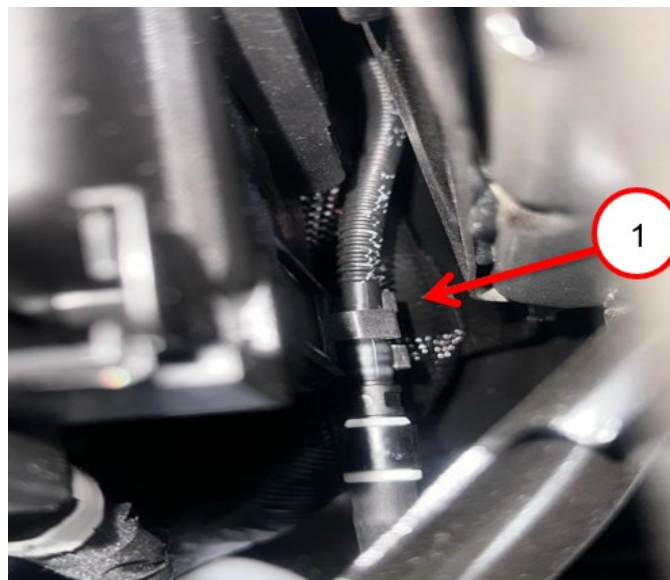

Fig. 4
7. Remove the washer hose from the Power Distribution Center (PDC) support Fig. 4.